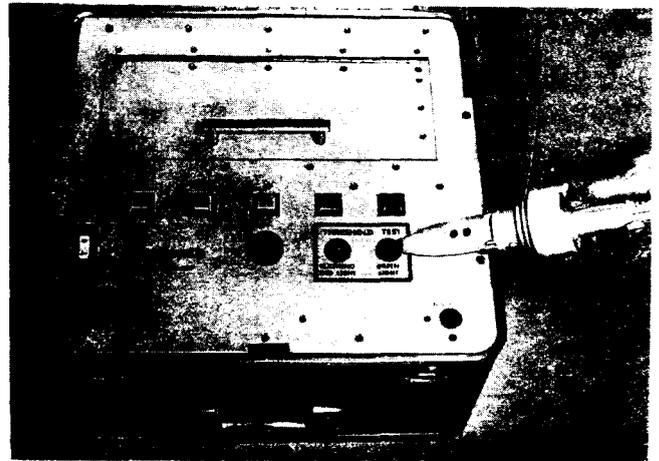

Fig. 7—Touching Post
2. Follow the instructions on the handle of 188A test set and touch the post marked GREEN LIGHT (Fig. 7).